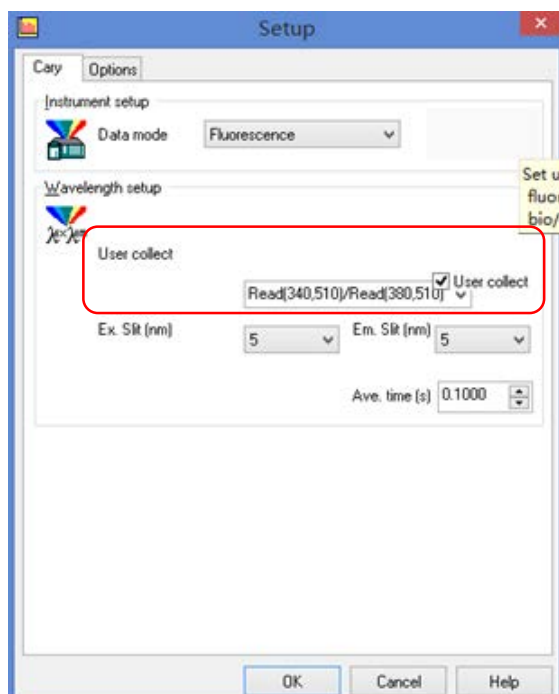

Fig.5 Simple reads / Cary page
c. Select User Collect. The 'Em. Wavelength' field will change to enable you to enter a simple Read command. You can also select a default command from the drop-down list. To do this, click the arrow to the right of this field (fig.5).